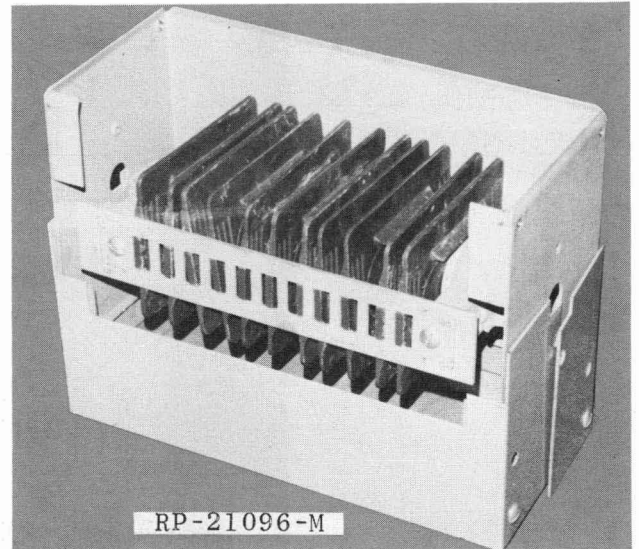
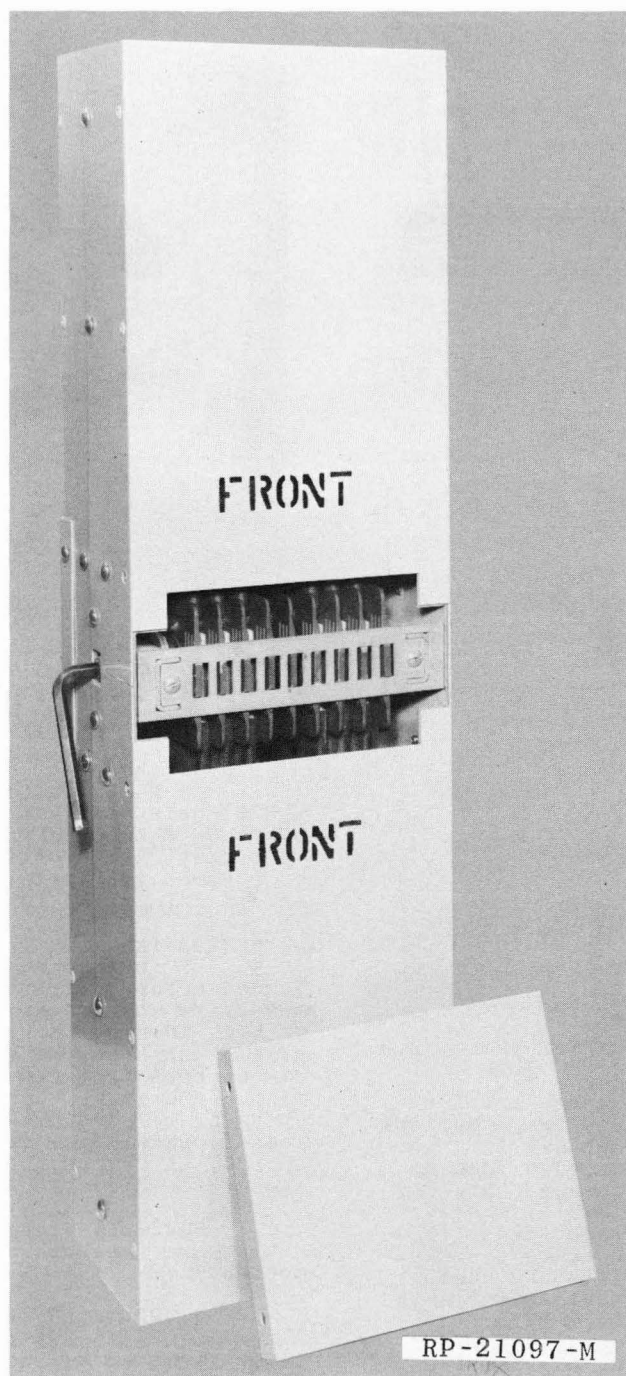

FIG. 11 FRANK ADAM COUPLING (Para. 5.2) ←
FIG. 12 FRANK ADAM DUCT SPLICE
5.2 Frank Adam duct sections are spliced using a pressure type coupling shown in Figure 11. These joints are tightened with an allen head wrench supplied by Frank Adam. See Figure 12.